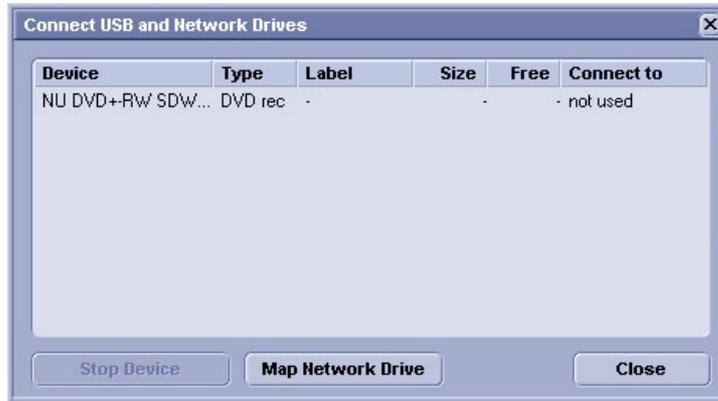

Figure 3-61 DVD drive "not used"
The "Connect USB and Network Drives" dialog window appears (Figure 3-61 below).
- 2.) If the [Connect to] field shows **not used** (see: Figure 3-61, above), double-click the "DVD line".